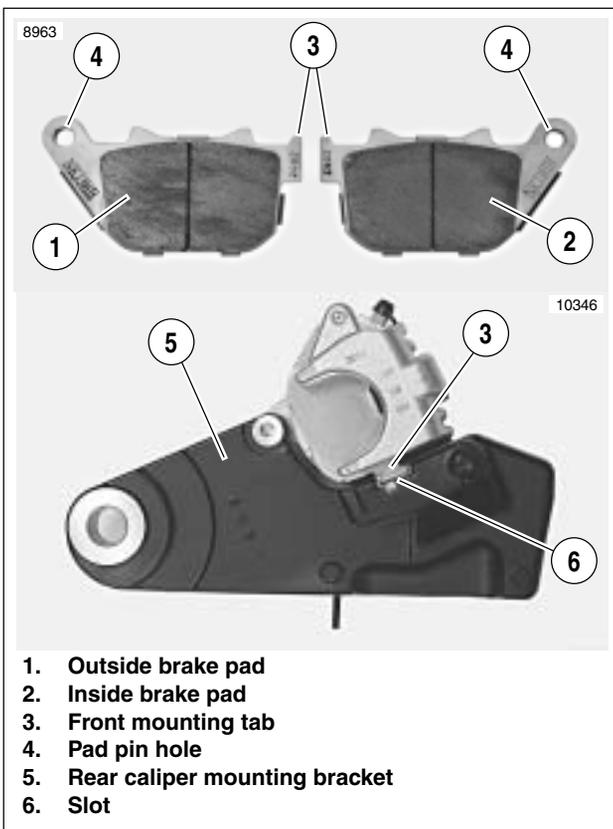

Figure 1-30. Rear Brake Pads
6. See Figure 1-30. Install **new** inside brake pad (2) using same orientation as pad previously removed. Make sure front mounting tab (3) is seated in slot (6) in caliper mounting bracket (5) and pad friction material faces brake disc.
7. While holding **new** inside pad in place, pull pad pin out and remove outside brake pad (1). Note the pad's original orientation for replacement purposes.
- See Figure 1-30. Pad front mounting tabs (3) must be fully seated in mounting bracket slot (6).